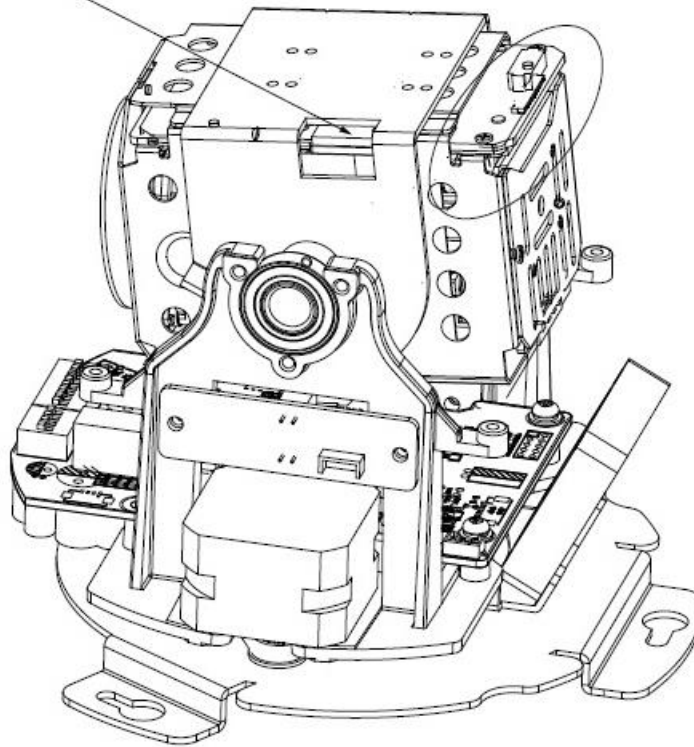

Figure 2-12
The Micro-SD card is installed on the camera module for data storage. See Figure 2-12.
- For some camera modules, the location of SD card slot is in the black circle which is shown in Figure 2-12.